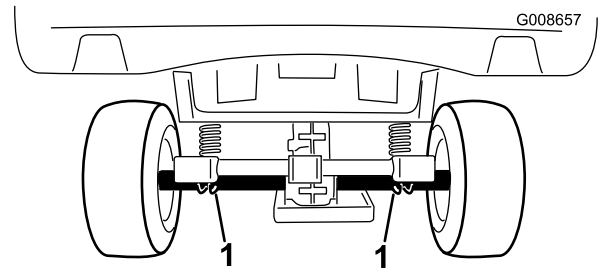

Figure 24
- The lifting point at the rear of the machine is under the axle tubes (Figure 24).